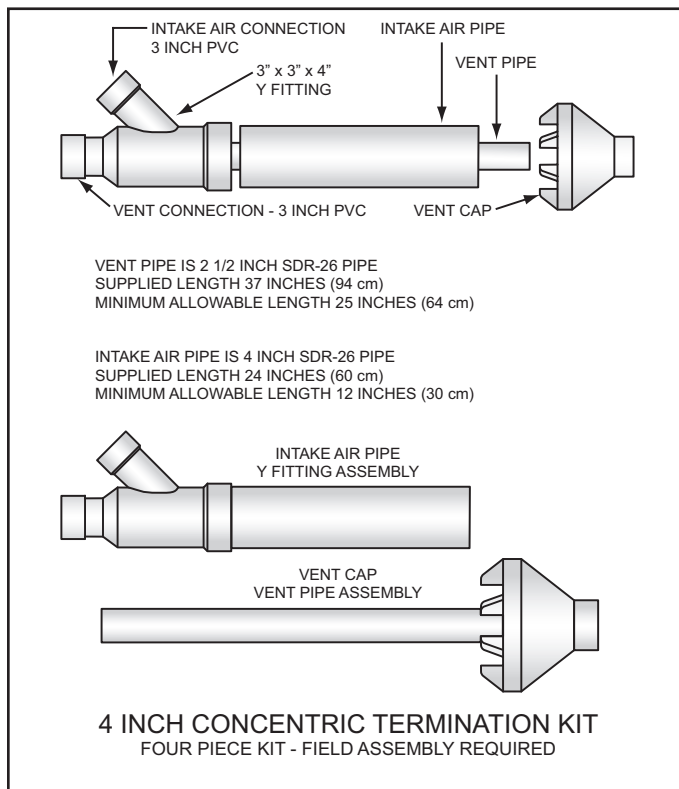
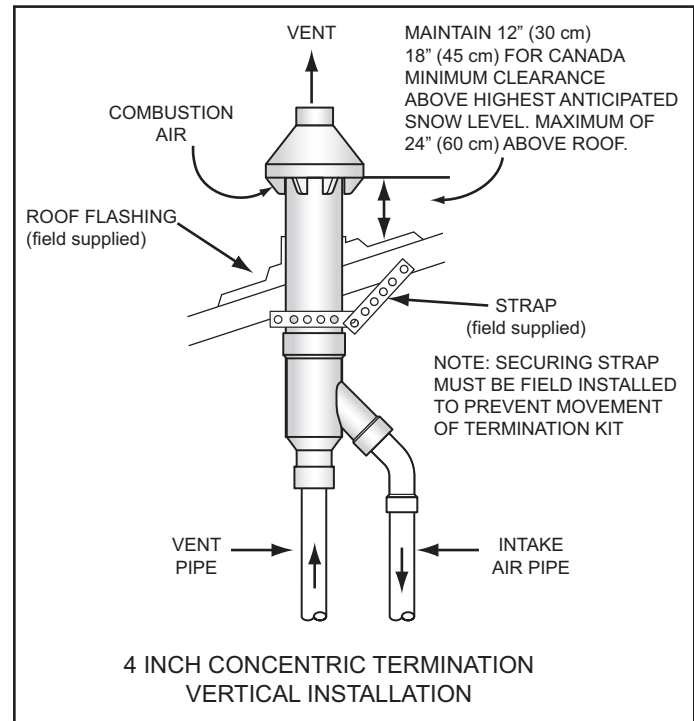
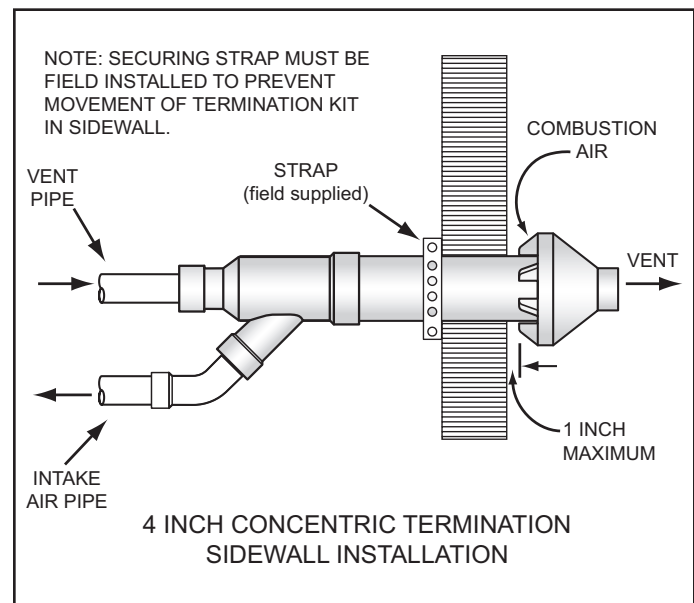

Figure 28
Figure 29
Figure 30
3. When installing a concentric termination vertically through the roof; ensure that all exterior vertical clearance requirements for the concentric termination, shown in Figure 29 on page 30 are being maintained. These clearances and those cited by local and national codes must be maintained.
See Figure 28 on page 30 for the minimum lengths allowed for the 4 inch concentric termination.
Assemble and install the 4 inch concentric termination. Refer to Figure 28, Figure 29 and Figure 30 for these instructions: